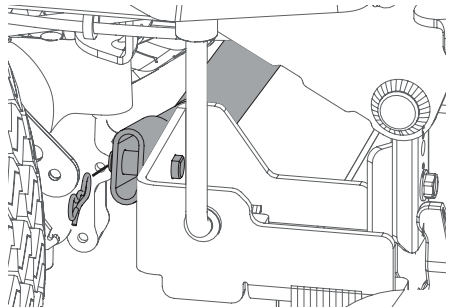

Figure 50
- a. Remove the bow-tie cotter pin on the right side of the bar connecting the bar with the bracket on the deck (Figure 50).